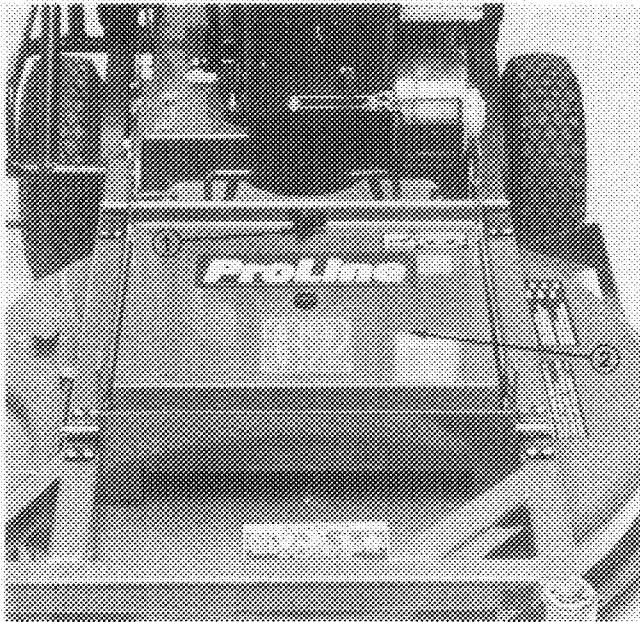

Figure 3
1. Loosen knob securing cover to cutting unit (Fig. 3). Remove cover.